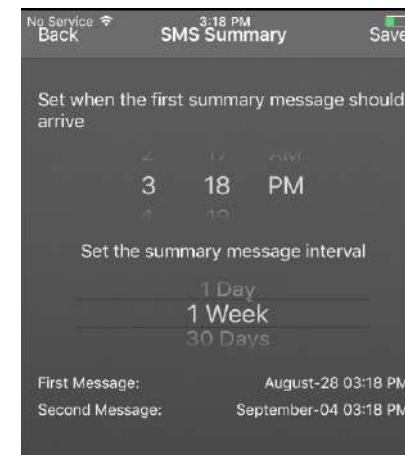

Fig. 6
8. Summary Interval – The interval at which the EL-SMS device will send you information regarding its status. (See Fig. 6).